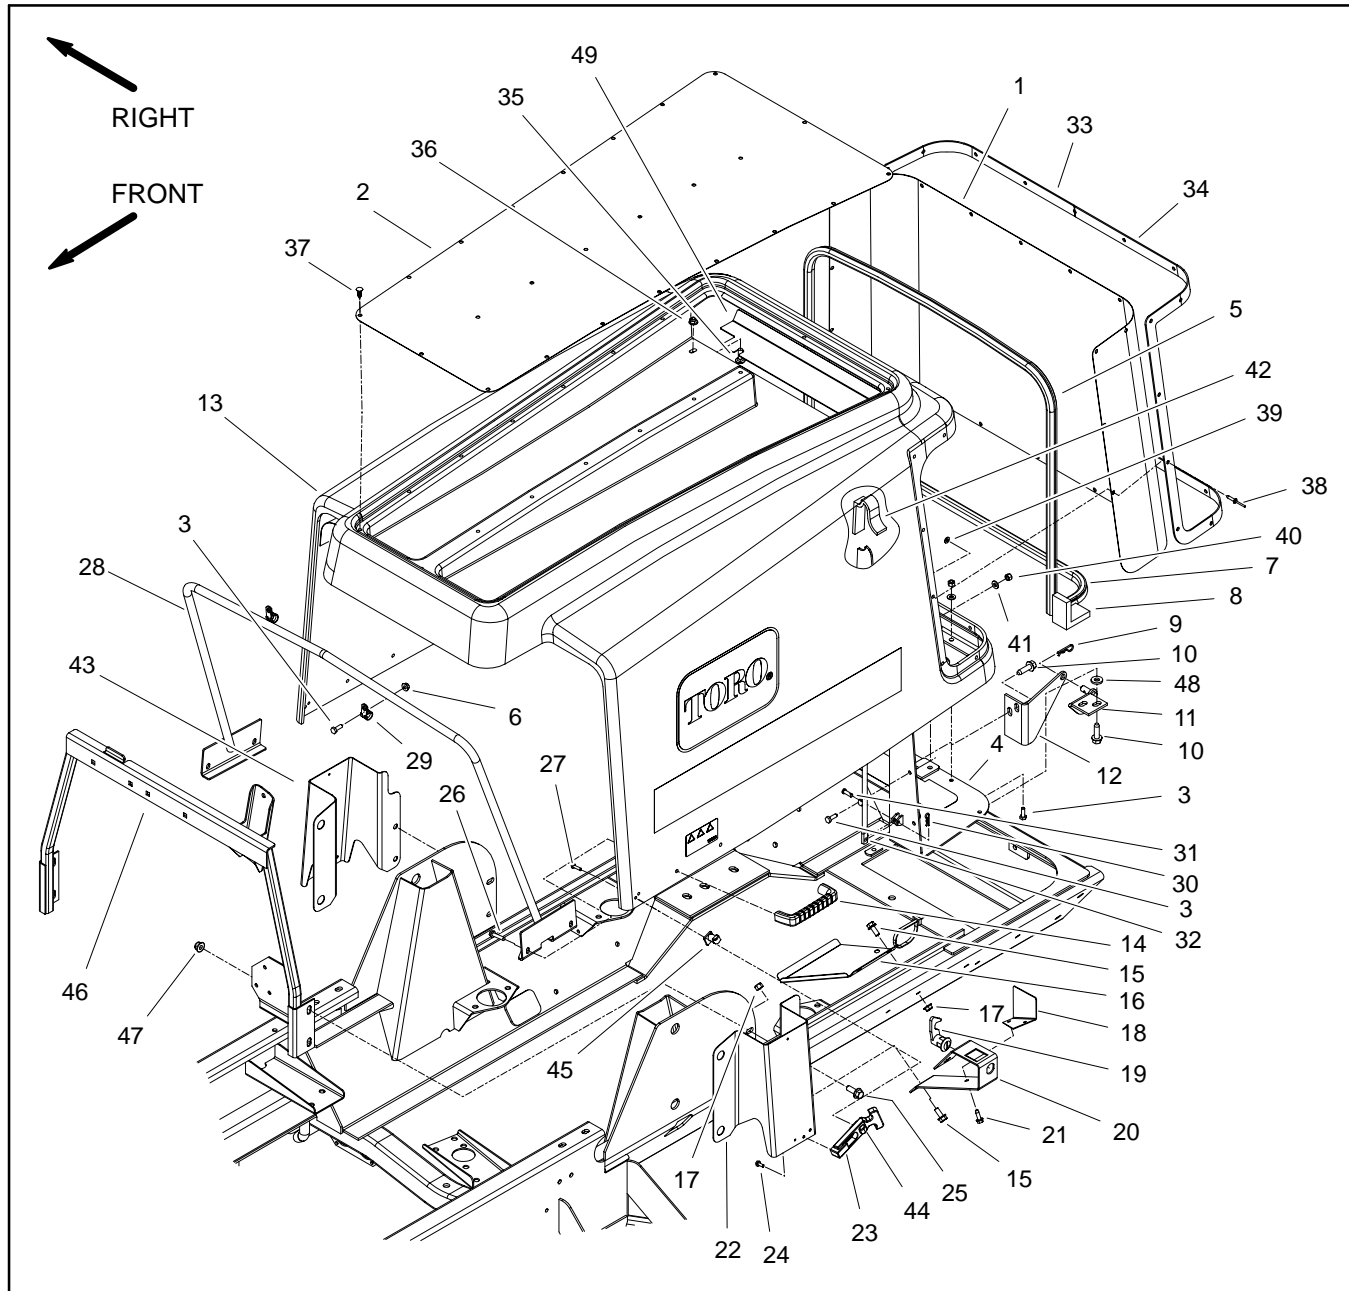

Figure 15
2. Remove hood using Figure 15 as a guide.
1. Install hood using Figure 15 as a guide.